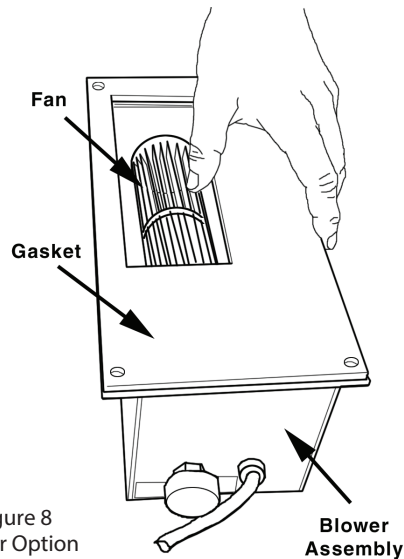

Figure 8
12. Place blower gasket onto blower assembly so as not to obstruct the air flow from the fan (Figure 8)